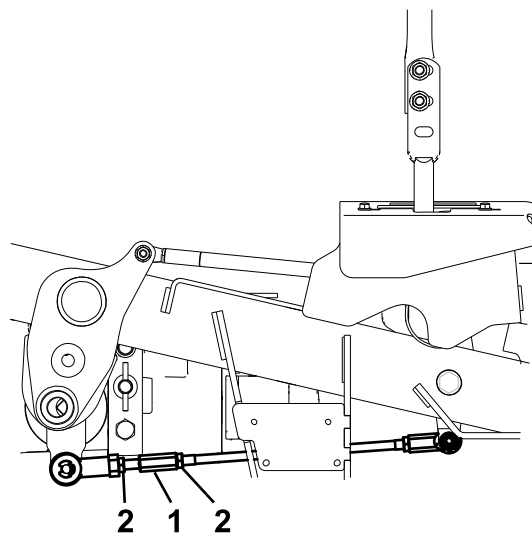

Figure 68
9. Adjust the pump control rod lengths by rotating the double nuts on the rod in the appropriate direction until the wheels slightly creep in reverse (Figure 68).